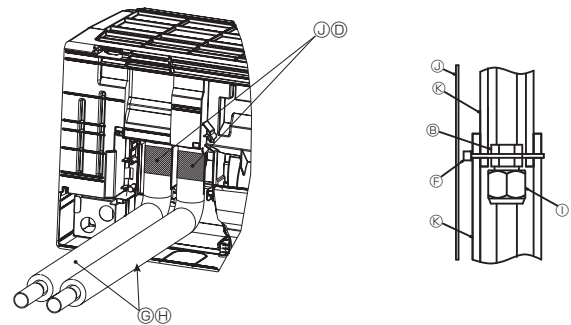

Fig. 3-19
- (7) Cover the joint with a pipe cover, and fix them with a band (F). (Fig. 3-19)